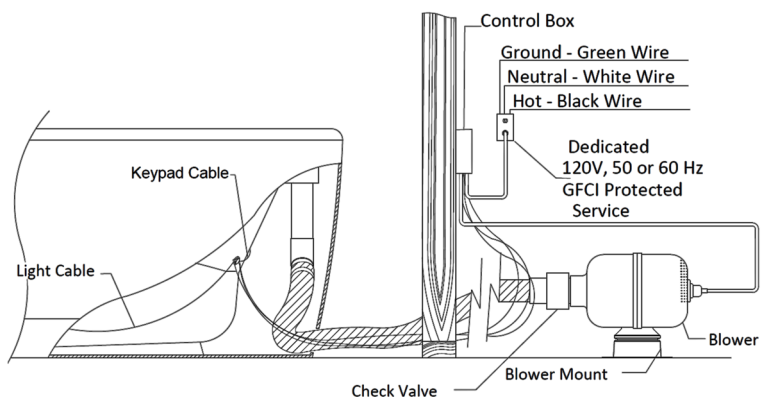

Figure 8a- Above Floor Installation
10. During installation if it is preferred to run the blower hose on top of the floor, a 2-1/2" [6.35cm] diameter holes can be drilled at the bottom of the skirt. A means to cover the hole, hose and wires is not provided. See **Figure 8a on page 21**.